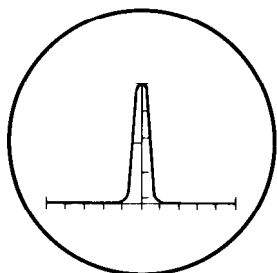

Figure 16
- () Turn the slug of coil L3 until the correct pip is centered on the screen base line. If the top of the pip is off the screen at the top of the CRT, reduce the PIP GAIN control setting until the complete pip pattern is visible as shown in Figure 16.